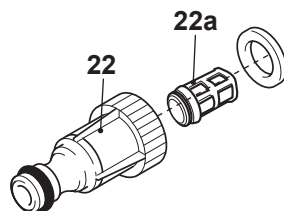

Fig. 24
1. Unscrew and remove the water inlet hose adaptor (22) from the water inlet (6).
2. Disassemble the water inlet hose adaptor (22) (Fig. 24).